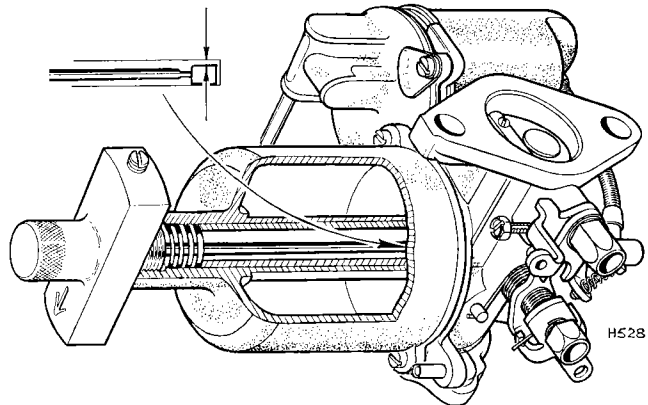

Fig. 67. Jet biasing
15. Enter the end of the nylon feed tube (32) into the base of the float chamber, without the gland (36) or washer (35) fitted, and loosely secure with the retaining nut (34).
16. Feed the jet (31) into the jet bearing (39). Do not fit the spring (26), jet adjustment restrictor (27), or adjusting nut (28) at this stage.
17. With the carburettor positioned with its inlet flange downwards, and referring to Fig. 67, insert the piston loading tool into the damper tube at the top of the suction chamber and screw in until fully home. Screw the tool back until the arrow, on the tool, points towards the inlet flange of the carburettor.